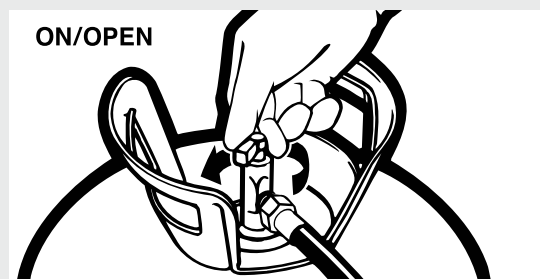

Figure 3.
- Using the wrench provided in the Gun / Hose Assembly Kit, tighten the hose assemblies for both "A" and "B" valves until both are tight. Apply a coating of petroleum jelly to the inside face of the Insta-Flo™ Dispenser. (See figure 3)